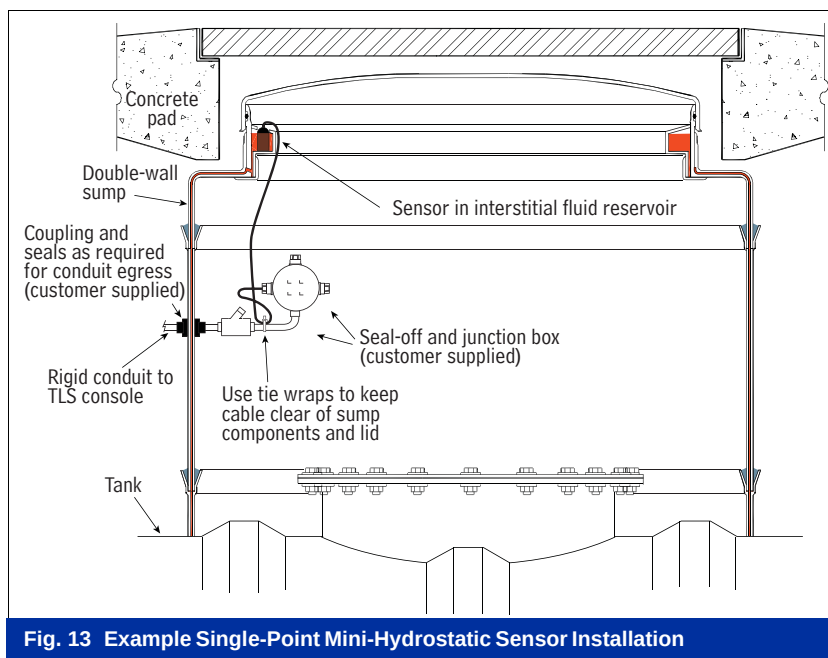

Fig. 13 Example Single-Point Mini-Hydrostatic Sensor Installation
- Installation example (see Fig. 13)